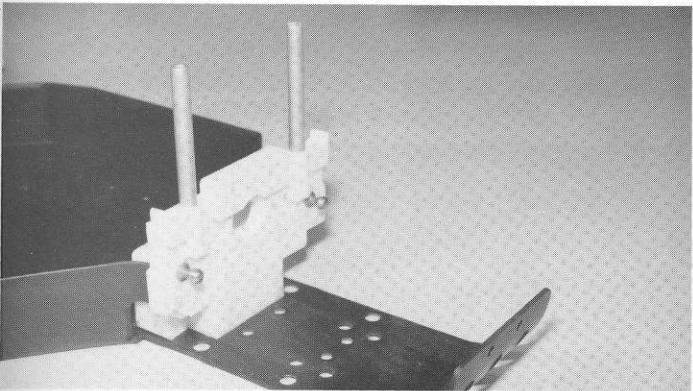

Fig. 82
□ **Fig. 82** Your installed bulkhead will look like fig. 82.